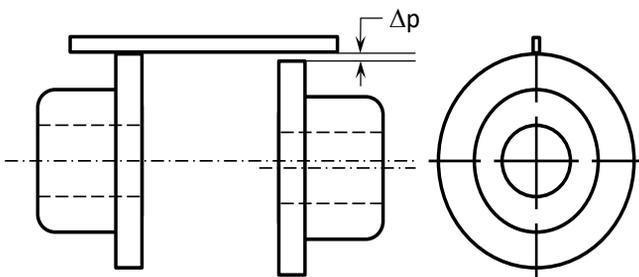
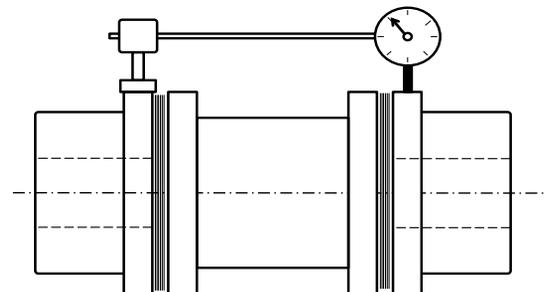

Figure 5 Parallel misalignment measurement
Figure 6 Coupling with dial indicator
1. Initial parallel misalignment can be checked by using a straight-edge across the hub flanges (see Figure 5) to measure the approximate distance Δp . A more precise method is to use a dial indicator or laser system and measure the parallel off-set in at least two locations 90 degrees apart while rotating the hub (see Figure 6).
1. With a dial indicator or laser system (see Figure 6) measure the angular misalignment by determining the parallelism of the coupling flange faces.